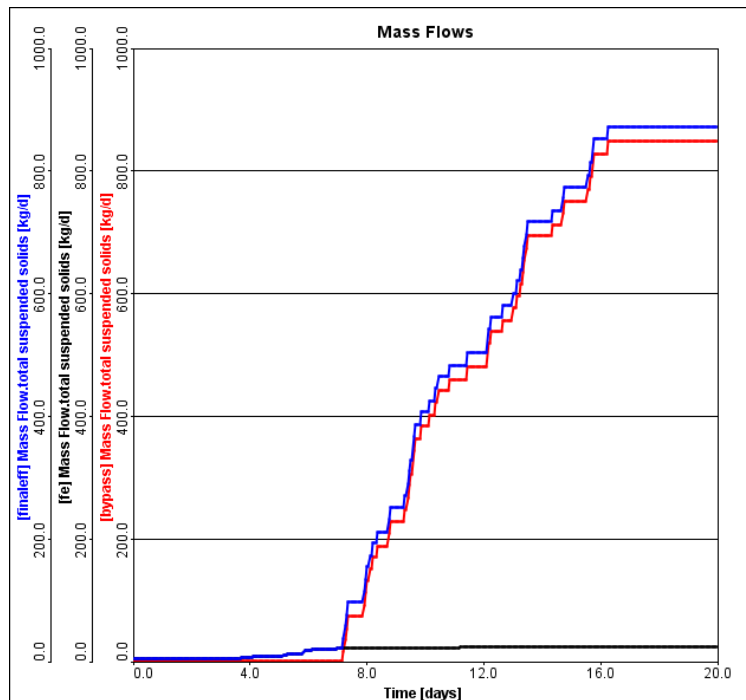

Figure 8-8 – Mass Flow Output Graph
14. **Increase the influent flow rate** and notice that when the influent flow rate is above 2000 m³/d (the default pump flow rate for the **Control Splitter** object), some flow will begin to bypass the plant and show up in the bypass stream. An example is displayed in **Figure 8-8**. Note that your output graph will look different when compared to the figure below depending on the adjustments you make to the slider during the simulation run.